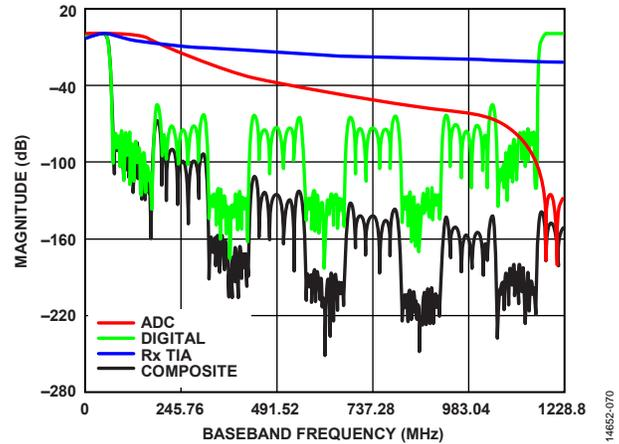
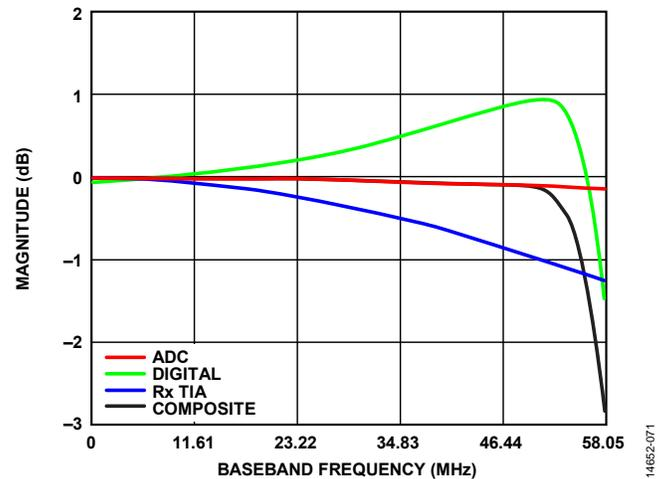

Figure 77. Main Receiver Filter Responses
Figure 78. Pass-Band Frequency Response of the Rx = 100 MHz, 122.88 MHz, DEC5 Profile (Pass Band Zoom In View)
- Rx 100 MHz, which implies a RF (complex) receiver bandwidth of 100 MHz. In Figure 77 and Figure 78, note that the profile pass band is set to 50 MHz because the real IF mode is disabled and the received data is centered around dc. The filter responses are also symmetrical around dc. Only the positive half of the spectrum is shown. The pass band extends from -50 MHz to +50 MHz in the figure, which corresponds to RF frequencies of ±50 MHz from the Rx LO frequency.
Also available in the transceiver evaluation software (TES) **Rx Summary** tab is the frequency response of the analog transimpedance amplifier (TIA) low-pass filter (LPF), digital filters, the ADC transfer function, and the composite response from dc to the sampling rate of the ADC (see Figure 77).
An examination of the profile pass-band frequency shows that the Rx TIA 3 dB setting slightly attenuates information within the pass band. This analog attenuation is compensated by the digital filter response to obtain a maximally flat pass band for this profile. A zoom in view of the pass band is shown in Figure 78.